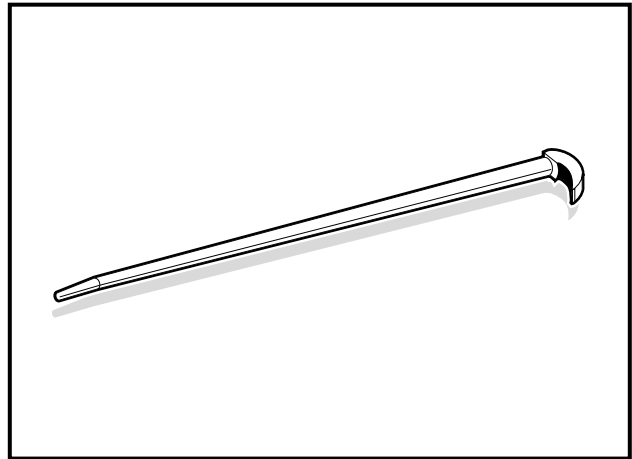
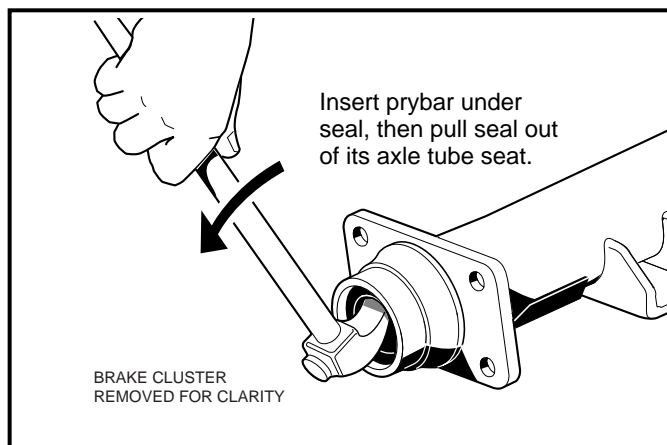

Figure 16-4 Rolling Head Prybar
Figure 16-6 Seal Lip
6. Use a 16 inch (40 cm) rolling head prybar (**Figure 16-4, Page 16-3**) to remove the oil seal. Insert the prybar under the seal and pull oil seal out (**Figure 16-6, Page 16-5**). **See following CAUTION.**